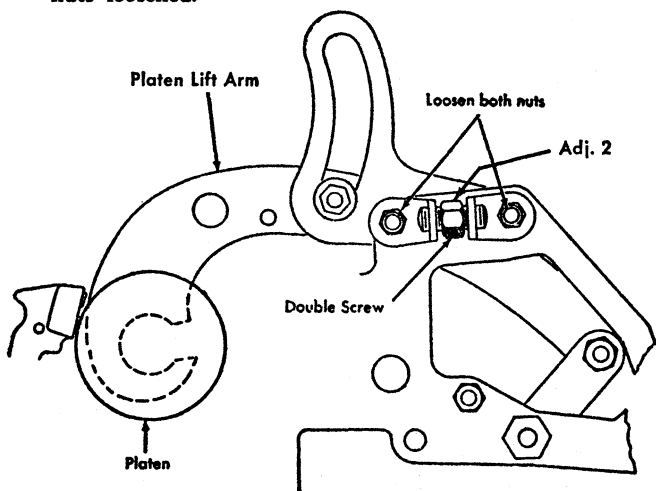

Figure 8. Lift Platen Ring and Cylinder Adjustment
2. **THE RING AND CYLINDER** adjustment is made by setting the double screws, located on the inside of the platen lift arms (Figure 8). When making this adjustment the form should be in the typewriter and the retaining nuts loosened.